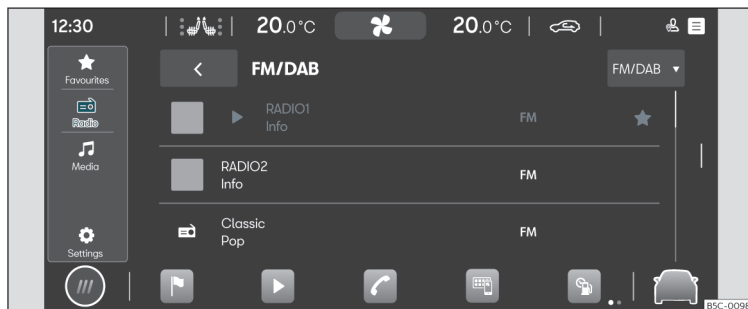

Fig. 135 Schematic representation: Radio view
- Press **HOME** > ► > >>> **Fig. 135**.